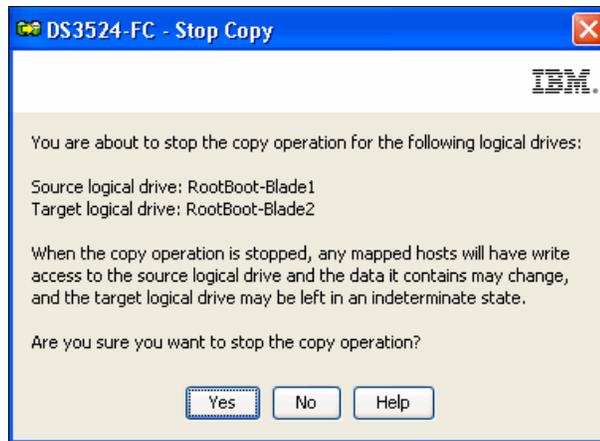

Figure 3-22 Stop Copy dialog box
4. The Stop Copy dialog box opens, as shown in Figure 3-22. Read the information. Click **Yes** to proceed. The VolumeCopy is stopped.